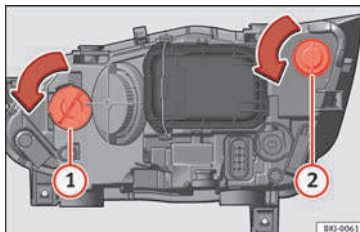

Fig. 98 In the engine compartment: turn signal bulb ① and DRL (daytime running light) bulb ②.
- Turn the bulb holder »» Fig. 98 ① or ② to the left and pull.